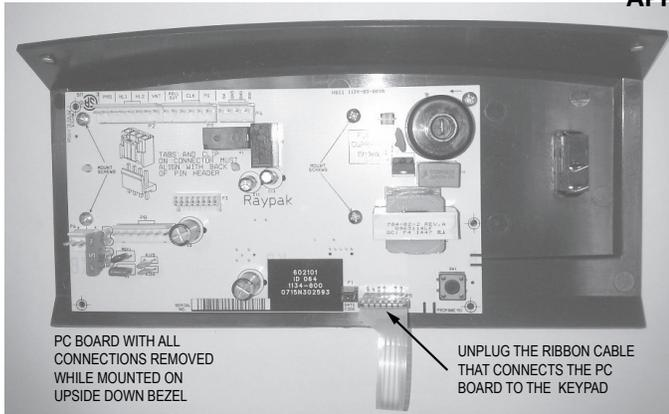

Figure 6. Unplug Ribbon Cable
9. Unplug the ribbon connector on the PC Board that connects it to the keypad (see **Figure 6**).